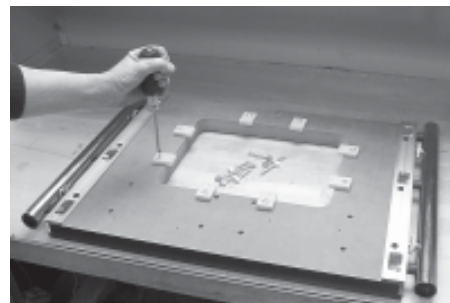

Figure 1
3. Place the Router Table facedown on a clean, flat shop table or bench. Locate the package containing the Router Plate and assemble the Brackets ONLY, according to the included instructions. (Figure 1)